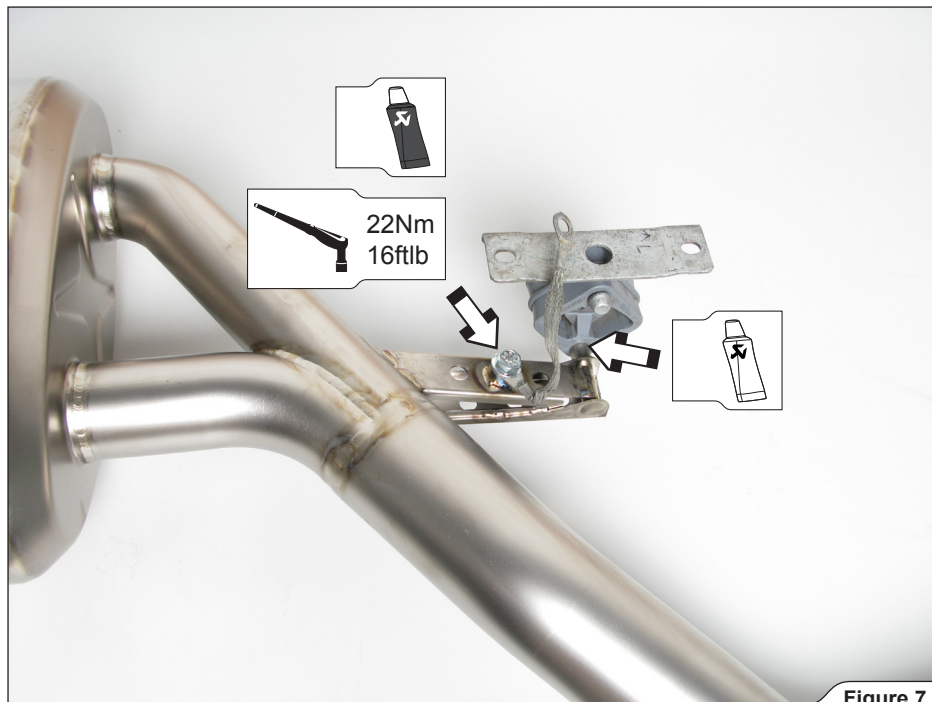

Figure 7
1. **For Slip-On and Evolution:** attach the stock rubber muffler brackets (bear in mind, that brackets are not simetrical) and ground wires (using Akrapovič M8x16mm bolts) on both Akrapovič mufflers (**Figure 7, 8**).